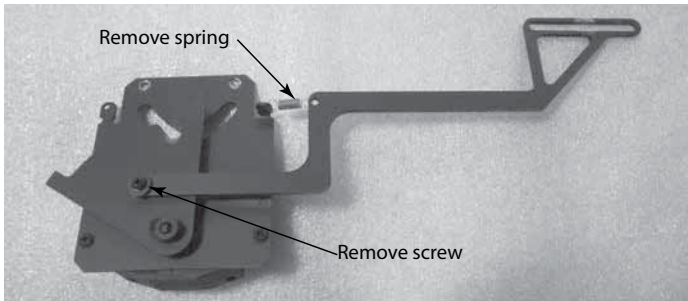

Figure 4.30 Removal of Linkage Arm and Spring
- Remove the linkage arm and the spring from the timer. See Figure 4.30.